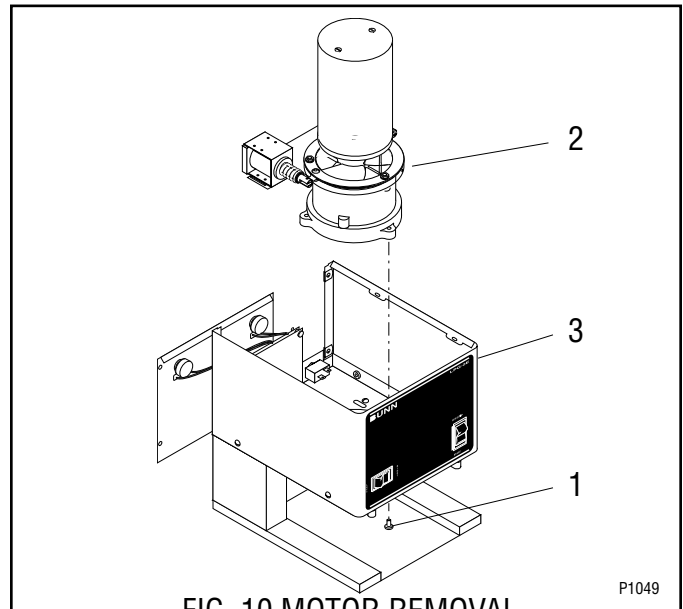

FIG. 10 MOTOR REMOVAL
3. Refer to Fig 10. Remove the three #10-32 x .25" screws (1) securing the motor to the motor support bracket.
4. Remove the motor, solenoid and solenoid components (2) from the hopper housing (3) as an assembly.
30. Install solenoids and solenoid bracket (4) as an assembly on the new motor.
31. Install spacer plate (3) making sure the hole in the spacer plate aligns with the hole in the mounting ring.
32. Install solenoid plunger with spring and slide plate (2) as an assembly into the solenoid coil. Place slide plate on the dowel in the mounting ring. Repeat for the opposite side.
33. Install retaining ring w/hopper gasket (1) using three #8-32 pan head screws and three #8-32 keps nuts.
34. Refer to Fig. 10. Install motor, solenoids and solenoid components (2) in the hopper housing (3) using three #10-32 truss head screws (1).